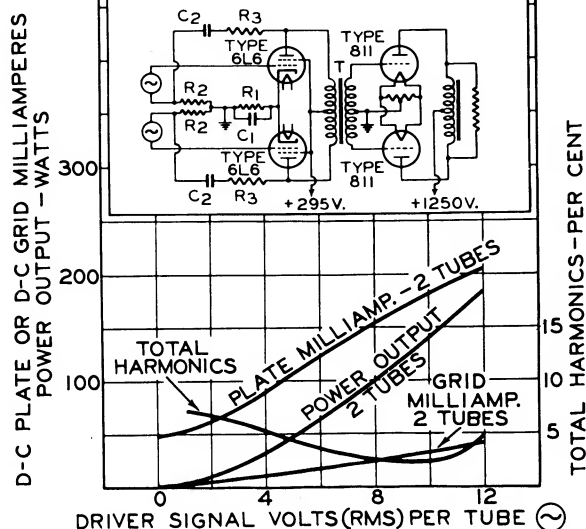

Figure 1
class B at a plate voltage of 1250 volts (zero bias) will deliver 175 watts, and are, therefore, well suited for the modulator stage. A pair of 6L6's in class AB1 are recommended for the audio driver stage in an inverse feedback circuit (see the circuit and curves of Fig. 1). An a-f driving voltage of only 12 volts RMS per grid will drive the 6L6's to the point required for full output from the class B 811's. A pair of 809's in class B, with their new ICAS ratings, will deliver 145 watts of a-f power. They will, therefore, also do a very good job of modulating two 812's.
The 811 is a zero-bias, high-mu class B modulator, as well as an excellent r-f tube. Two 811's in class B provide 225 watts of a-f power, which will do a good job of modulating a 1/2 kw. 'phone transmitter. A typical class B modulator stage using two 811's driven by two 6L6's, with inverse feedback, is shown in Fig. 1. Operating characteristics are shown in the curves of Figs. 1 and 2. Because of its high pervance and high mu (160), the 811 makes an efficient plate-circuit frequency doubler.